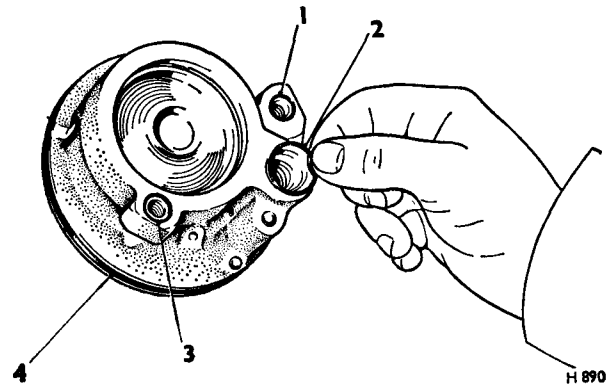

FIG. N11 POSITION OF PUMP EXTERNAL SEALING RINGS
8. Remove the sealing 'O' rings from the mounting bolts and the union (*see Fig. N11*).